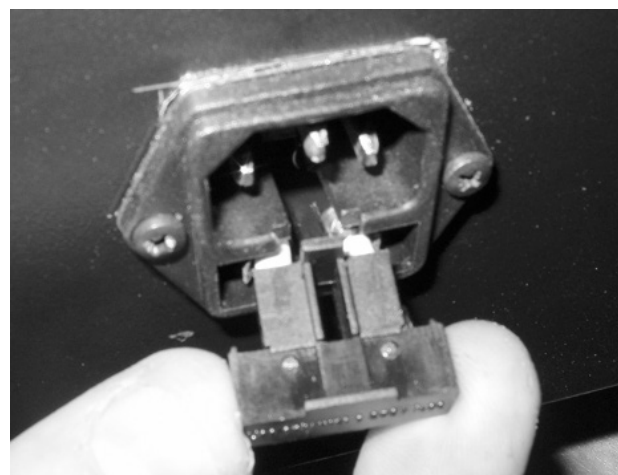

Fig. 11
2. When replacing the fuses pull the connector cover straight out to access the fuses (Fig. 11).